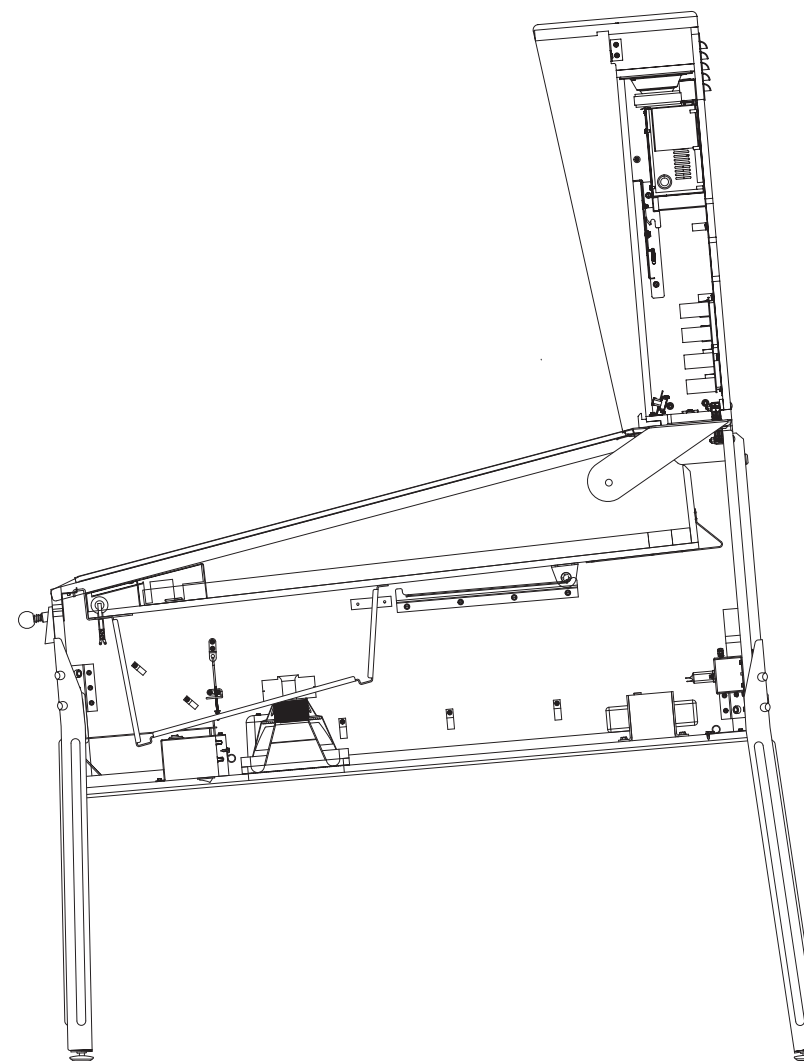

**Figure A10. Removing the playfield glass.**
**10)** You will find the coin door keys attached to the ball shooter, on the front of the game. Cut them loose with a pair of wire cutters. Remove the playfield glass: 1) open the coin door, 2) slide the yellow lockdown bar lever to the left, 3) lift the lockdown bar straight up and out, 4) CLOSE AND LOCK THE COIN DOOR (to prevent scratching of playfield glass), then 5) slide the playfield glass off of the front of the cabinet (see figure A10). Carefully set the glass aside.